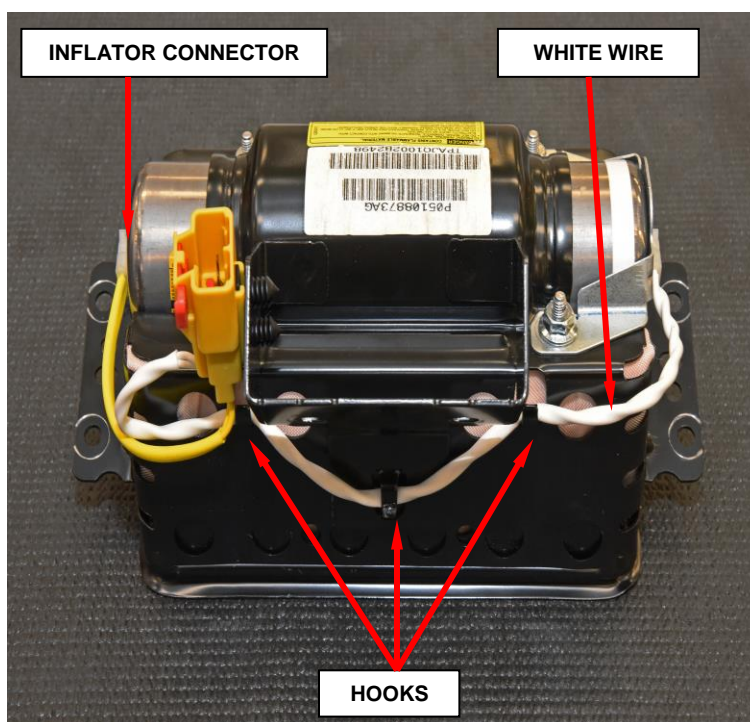

Figure 85 – Retrofit Complete
- l. Attach the white wire to the three hooks on the housing (Figure 85).
- n. Connect the single yellow wire inflator connector to the end of the inflator after removing the protective tape from the end of the inflator (Figure 85).
- o. Passenger airbag retrofit is complete (Figure 85).